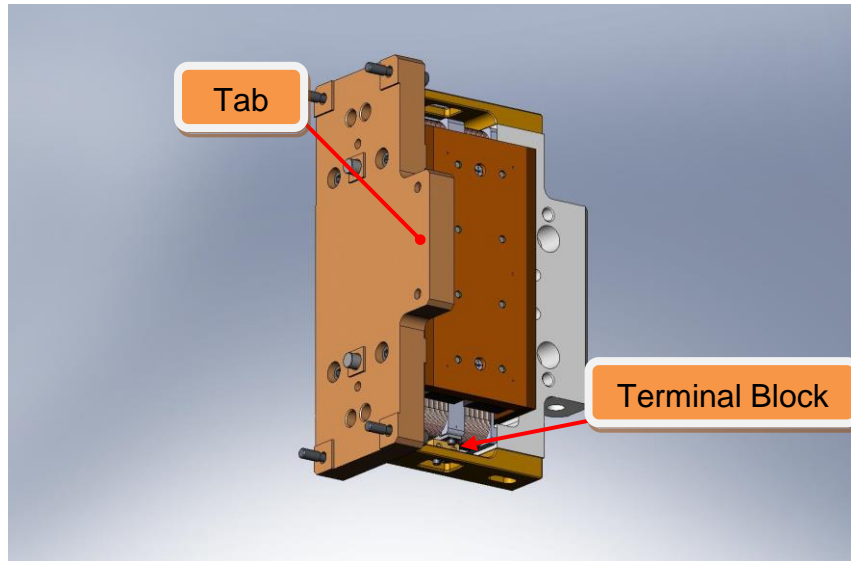

Figure 4.23. Actuator Magnet Mount bolted to Field Assembly. Note location of tab on Magnet Mount with respect to Terminal Block on bobbin.
- Mate **Actuator Magnet Mount** to **Field Assembly**, allowing dowel pins to slip into hole and slot in **Actuator Magnet Mount**. Proper orientation of parts is shown in Figure 4.23. Start *custom silver-plated hardware* (D0901100) into tapped holes in **Field Assembly**. Torque to final spec.